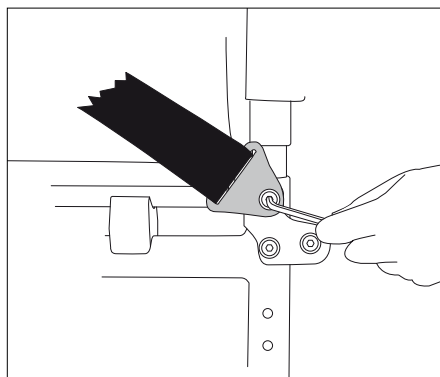

Figure 38
- Fit the hip belt as shown in figure 38. Use the screw you removed.